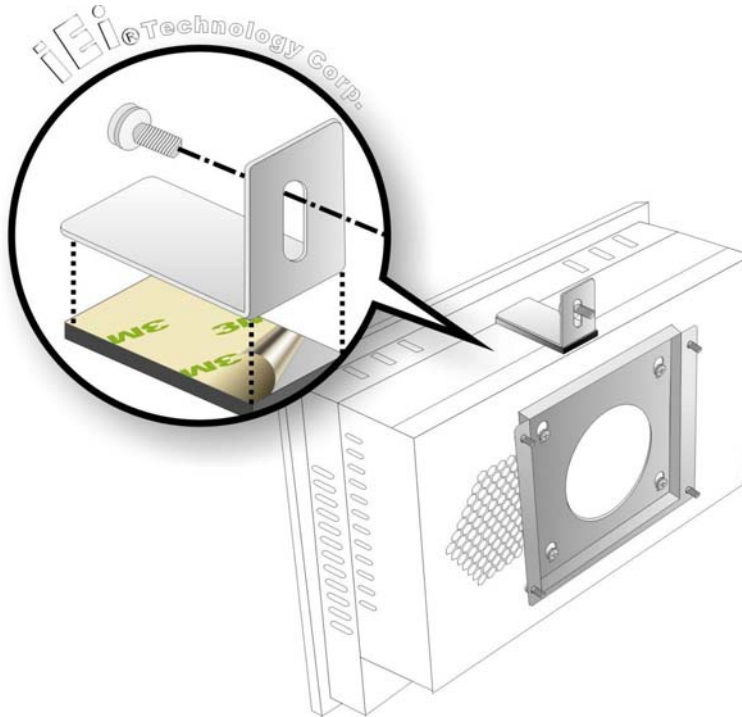

Figure 4-21: Secure the Chassis
Step 9: Secure the panel PC with the wall-mounting kit. To do this, stick the protective cushion to the wall-mounting kit first. Then, put the wall-mounting kit on the top panel of the panel PC. Carefully mark the location of the wall-mounting kit screw holes on the wall. Drill a pilot hole at the marked location on the wall. Secure the wall-mounting kit to the wall by inserting a retention screw into the pilot hole on the wall (**Figure 4-21**). This step is to avoid the panel PC being pushed apart from the wall-mounting bracket accidentally.